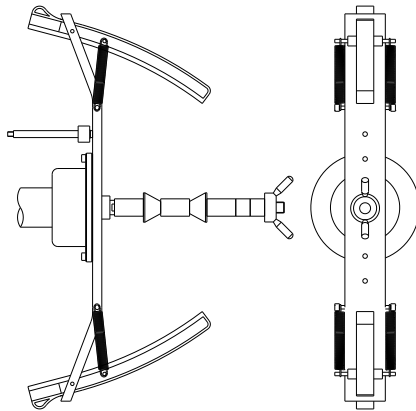

Fig.F4.2 Application of sample weight on the internal side of the motorcycle flange on the shaft (Cal2 phase)
8. At the end of the launch, the machine will display the writing **h12 CAL**. Apply the calibration weight on the internal side as shown in Figure F4.2. The calibration weight is to be applied on the hole that has the writing "CAL" marked on it;
9. Bring the motorcycle flange in perfect vertical position with the calibration weight at the top part as shown in figure F4.2 and press the  Start or lower the wheel guard.